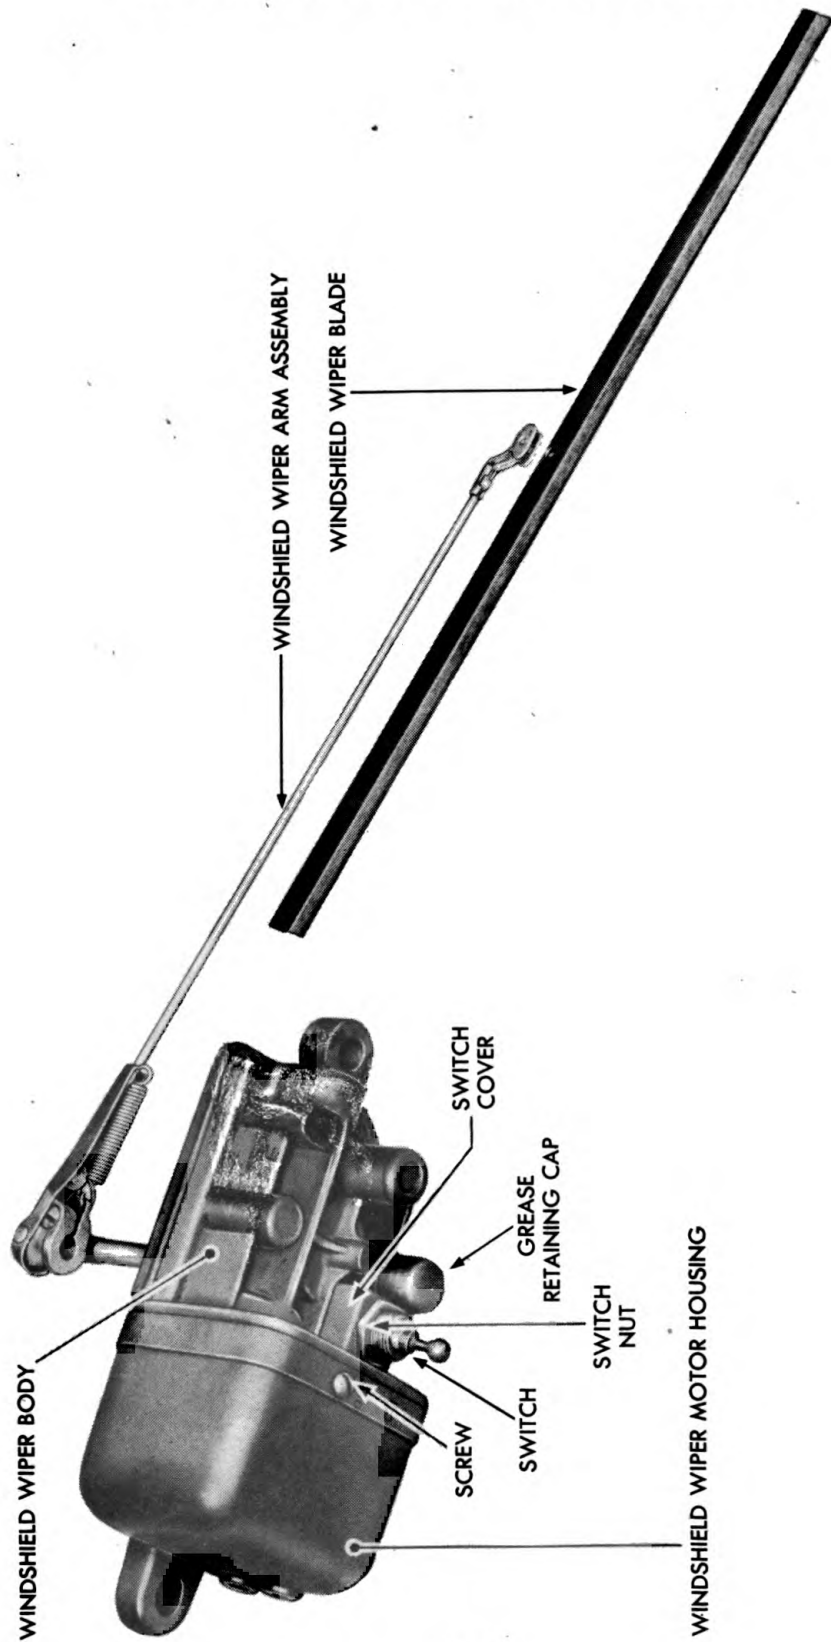

Figure 80 — Windshield Wiper Assembly
a. **Disassembly** (figs. 80, 81 and 82).